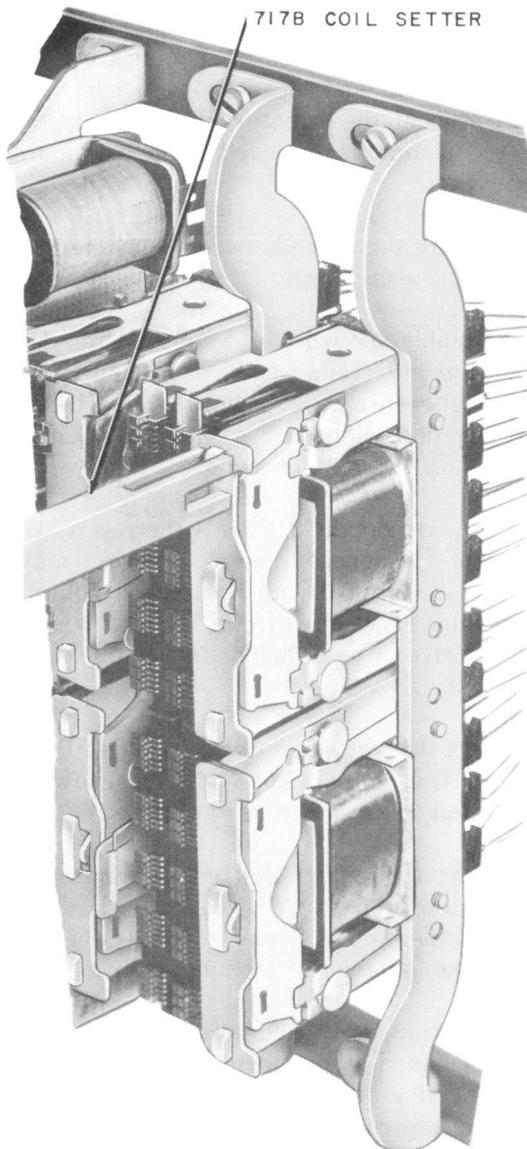

Fig. 18—Positioning Core Plate on Core Leg
- (1) Position the core plate in front of the core legs so the surface of the plate on which the holes are chamfered (edges not sharp) is outermost and manually start the core plate on the core legs. Then, using the 717B coil setter and the 4-ounce riveting hammer, gently tap the core plate into position on the core legs. When tapping the core plate at the center core leg, take care to avoid tapping the armature. Fig. 18 shows the coil setter being used to position the core plate on the upper core leg.